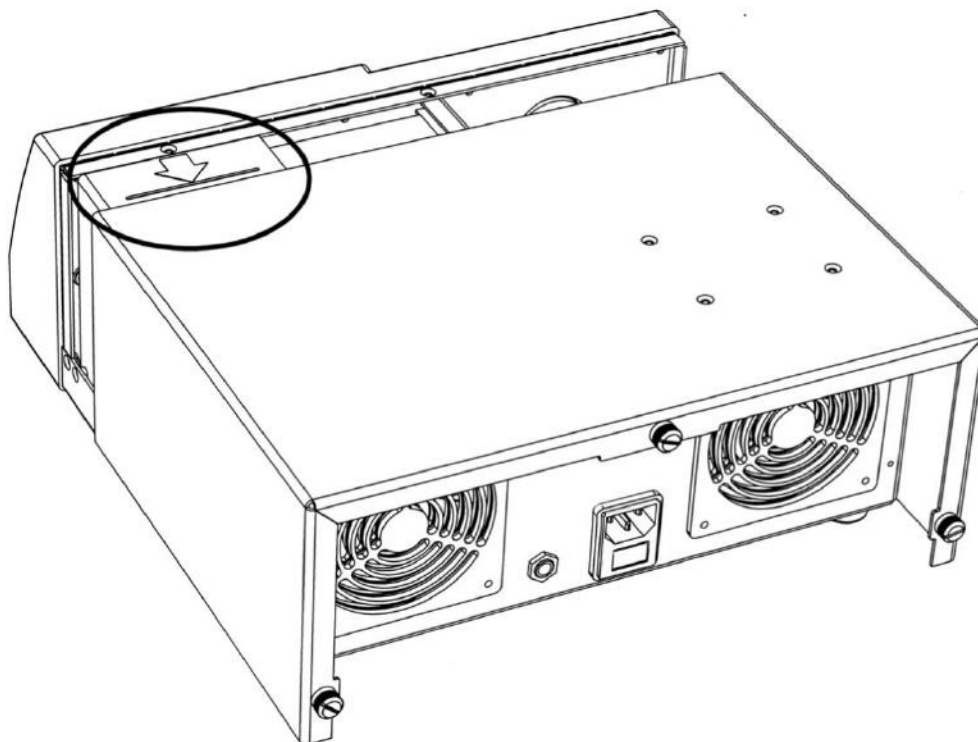

Figure 8.1
- Slide the Chassis Cover towards the back until the Arrow on the inside shield is completely exposed (approximately one and the half (1 ½) inch) (four (4) centimeters) and lift the cover up. (see figure 8.1)